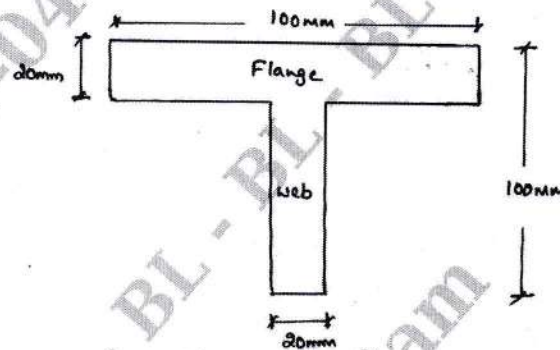

Fig.Q5(b)
b. A cast iron beam is of T-section as shown in Fig.Q5(b). The beam is simply supported on a span of 8m. The beam carries a UDL of 1.5 kN/m on the entire span. Determine the maximum tensile and compressive stress.